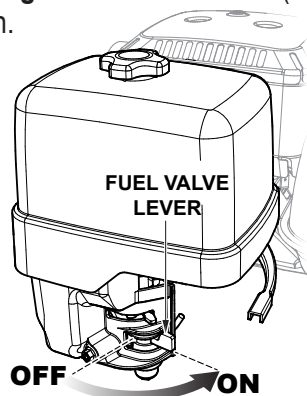

Figure 10. Engine Fuel Valve Lever (ON)
2. Place the **engine fuel valve lever** (Figure 10) in the **ON** position.